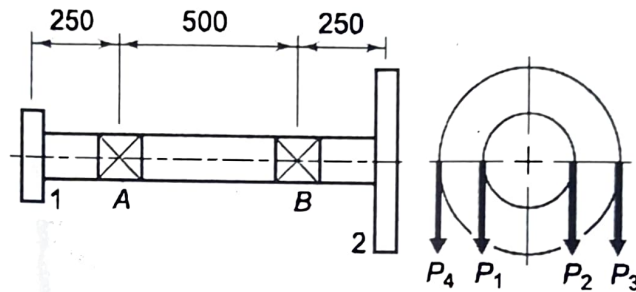

Fig.2. Shaft carrying two pulleys (All dimensions are in mm)
- 6.a) The layout of a shaft carrying two pulleys 1 and 2, and supported on two bearings A and B is shown in Fig. 2. The shaft transmits 7.5 kW power at 360 rpm from the pulley 1 to the pulley 2. The diameters of pulleys 1 and 2 are 250 mm and 500 mm respectively. The masses of pulleys 1 and 2 are 10 kg and 30 kg respectively. The belt tensions act vertically downward and the ratio of belt tensions on the tight side to slack side for each pulley is 2.5. The shaft is made of plain carbon steel 40C8 ($\sigma_{yt} = 380$ N/mm²) and the factor of safety is 3. Estimate suitable diameter of shaft. [10]